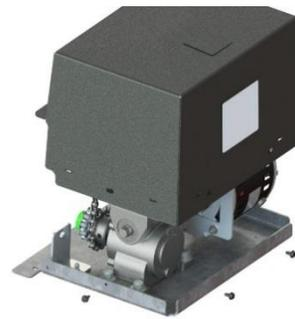

Figure 108
- 1) Remove the four screws on the bottom side of the Covana operator and remove the cover. (Figure 108)
- 2) Remove the four slotted screws at the bottom of the operator and remove the cover. (Figure 108)
- 9) Screw the cover back on using the 4 slotted screws. (Figure 108)